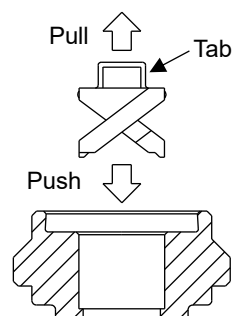

Fig. 2 Insert/Remove whirler
Remove the whirler by taking a hold of the tab and pulling (Fig. 2). If it is difficult to remove, pull it out while turning the whirler.
(2) Assembly
- ① [For INJJX, INJJX-Y series only] Insert the whirler into the nozzle tip (Fig. 2).